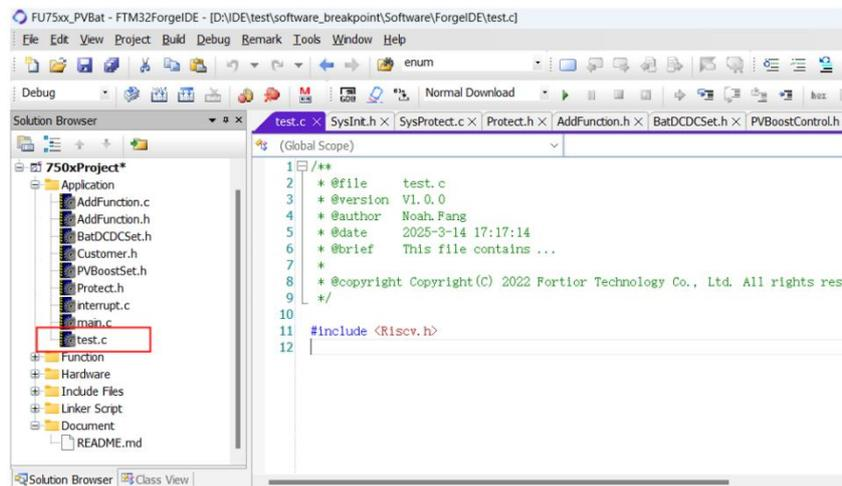

Figure 2-11
Step 6: Click "OK". The creation result is shown in Figure 2-11. The newly created "test. c" file appears in "Source Files".